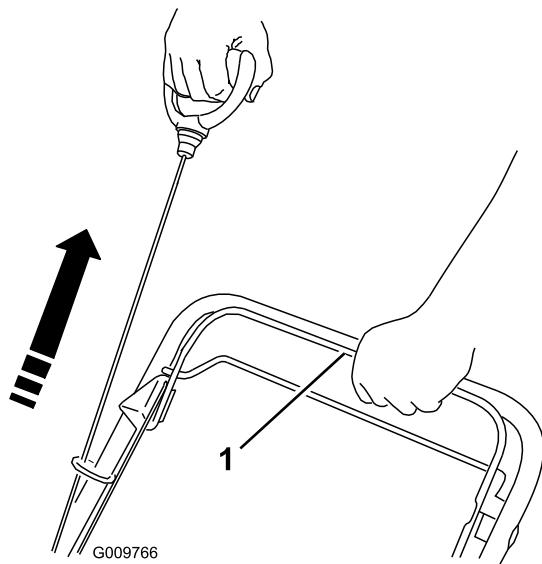
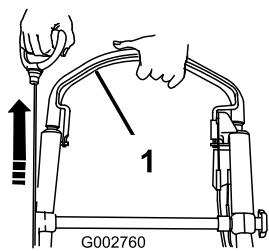

Figure 23
Figure 24
- Hold the blade-control bar against the handle and pull the recoil starter (Figure 23 or Figure 24).